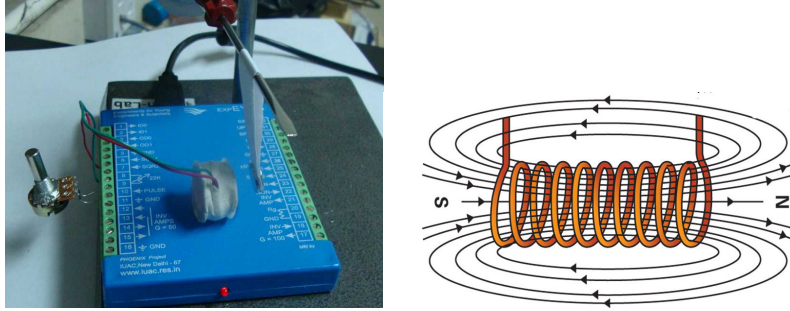

Figure 3.4: (a) Current carrying solenoid repelling a permanent magnet.
- Hang the pendulum near the solenoid as shown in figure3.4
The magnetic field of a solenoid coil is shown in figure3.4. The direction of field depends on the direction of the current.